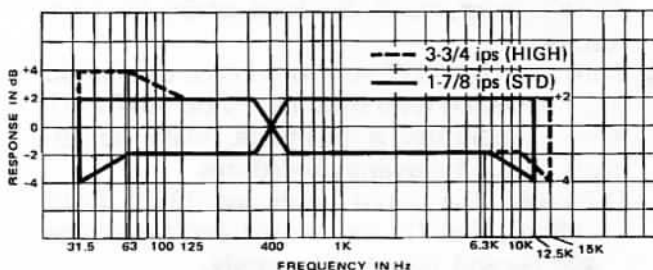

Fig. 6-5. Record/playback frequency response
- 1) Reduce the input level to  $-43$  dB (7 mV). Record input signals of varying frequencies on the blank test tape MTT-5061. Reproducing the signals, check if the requirements given in the table of Figure 6-5 are met. Carry out the same check at High tape speed. If the overall frequency response is poor, check the record/reproduce head if it is clean and not defective. Check the bias level, too.